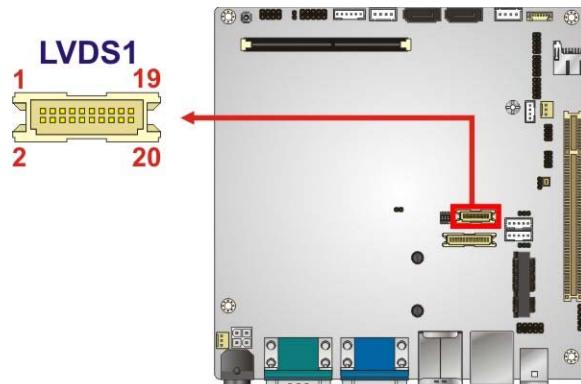

Figure 3-8: LVDS1 Connector Location
**CN Location:** See Figure 3-8